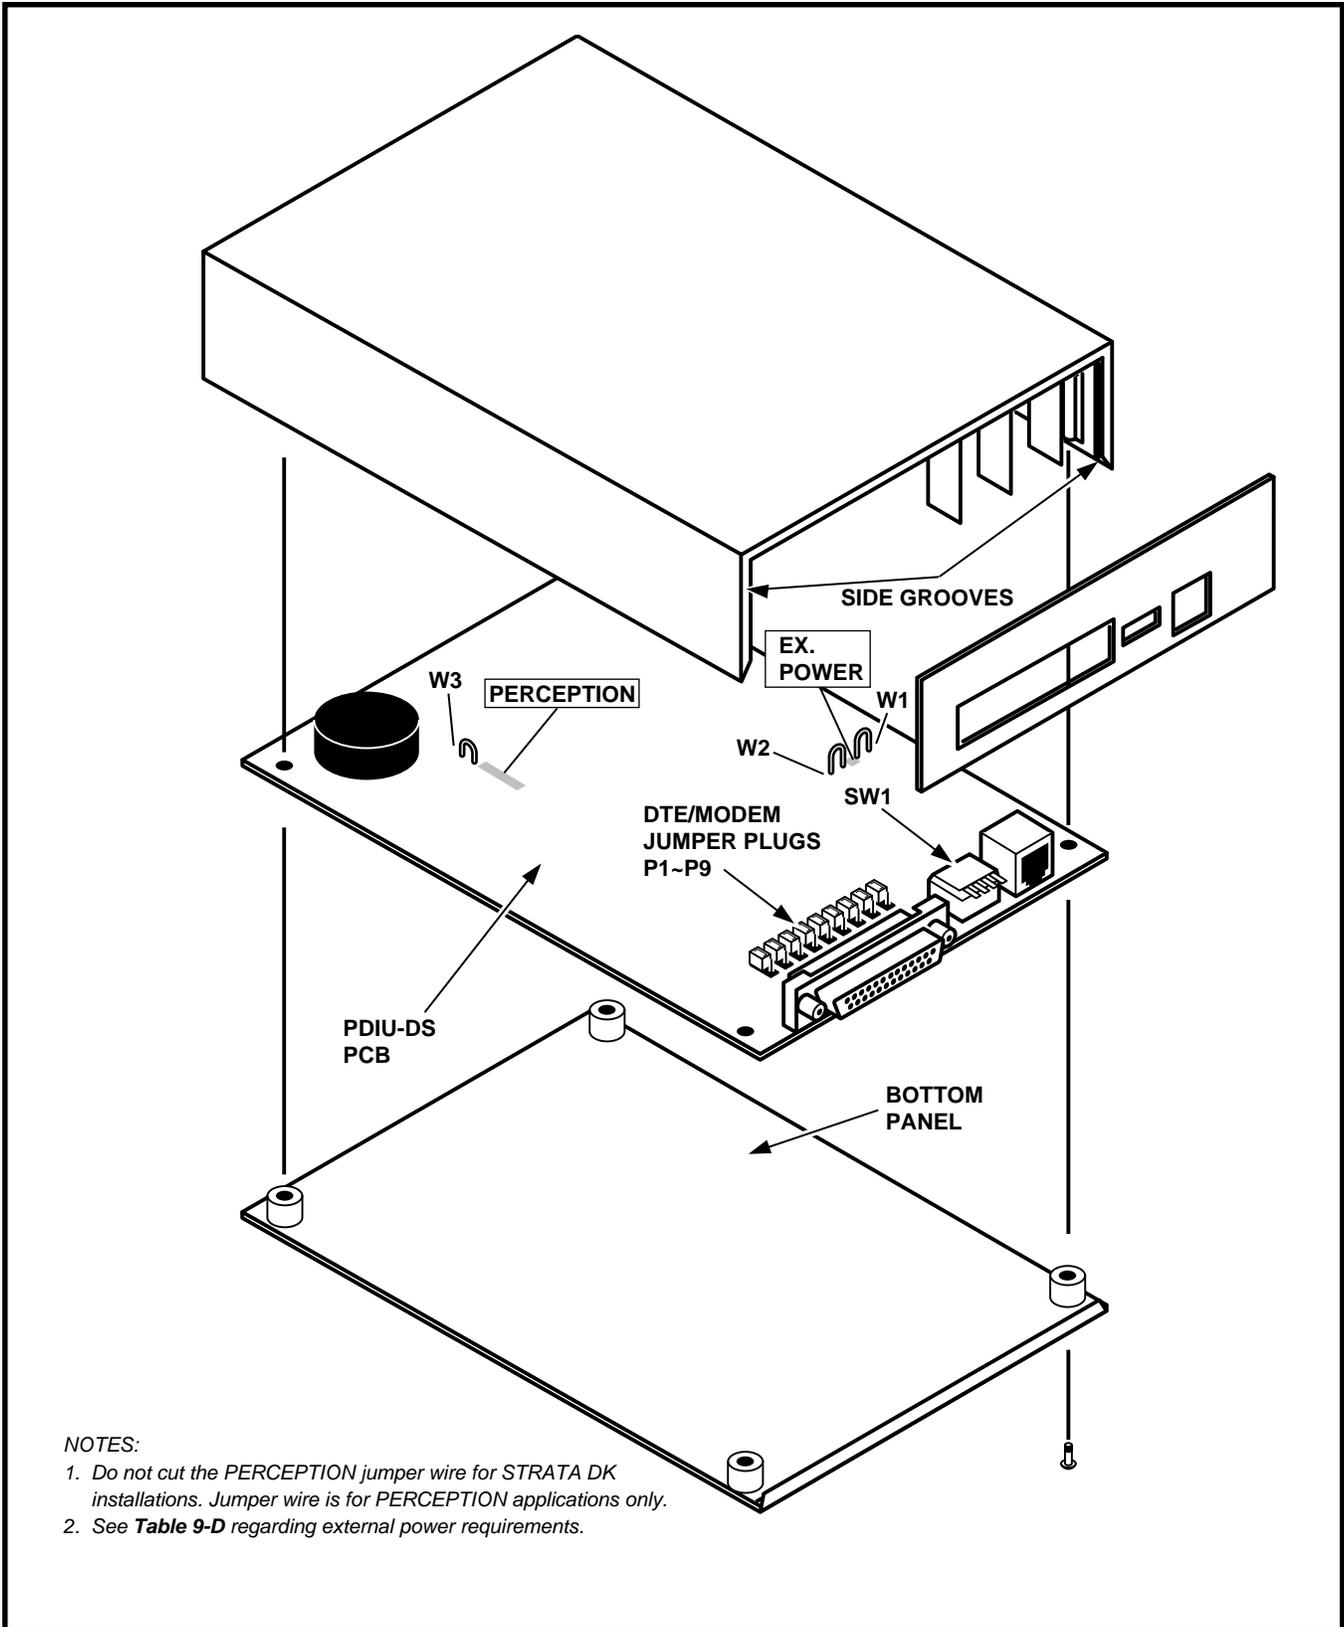

FIGURE 8-37
- 1) Remove the four screws securing the bottom panel to the rest of the unit. (See Figure 8-37.) These screws are not captive; so place together where they can be easily accessed.
- 1) Position the back panel to the PCB (see Figure 8-37).